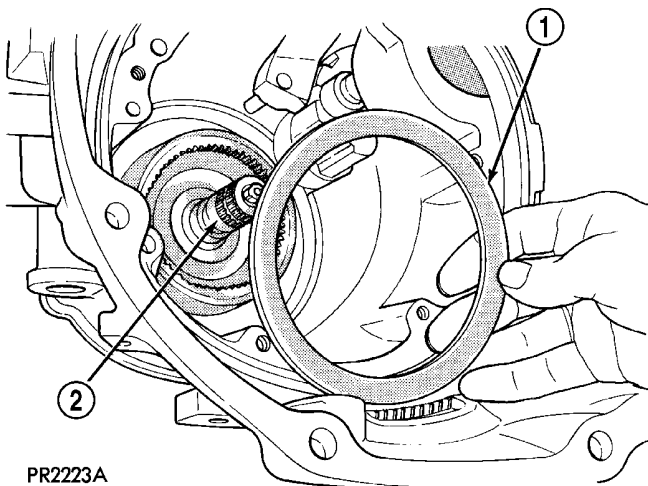

Fig. 45 No. 11 Thrust Washer
(1) Install #11 thrust washer (Fig. 45).